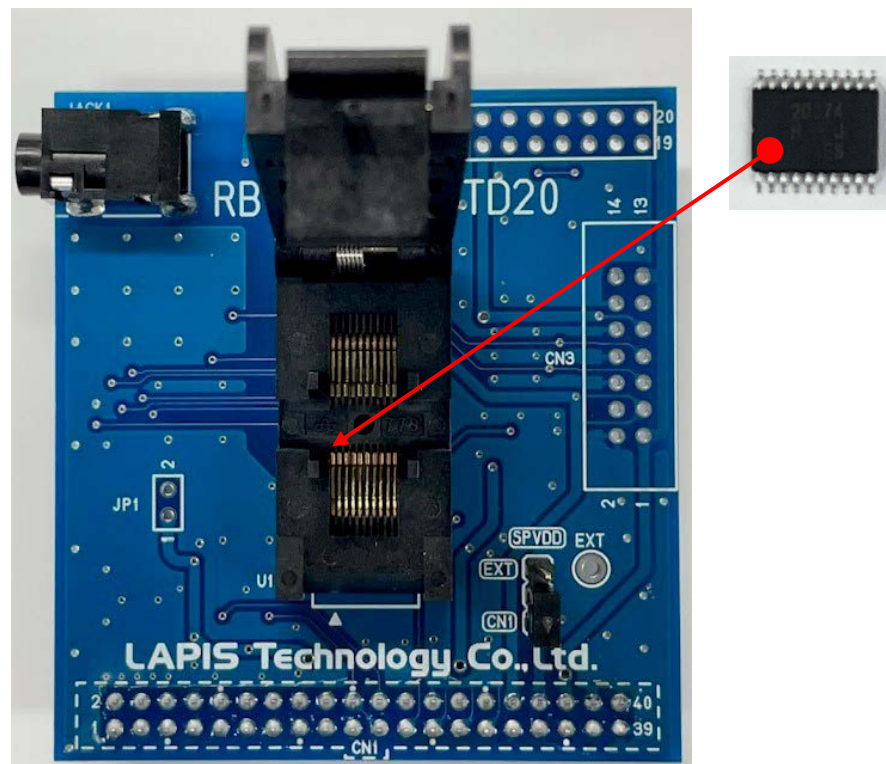

Figure 1 Outline Diagram
- Turn off the power when loading Speech Synthesis LSIs into the RB-S22Q284TD20. Pin 1 is the position of the board silk ▲ at the bottom left with respect to the socket opening. The Figure 1 shows the setting directions of Speech Synthesis LSIs.